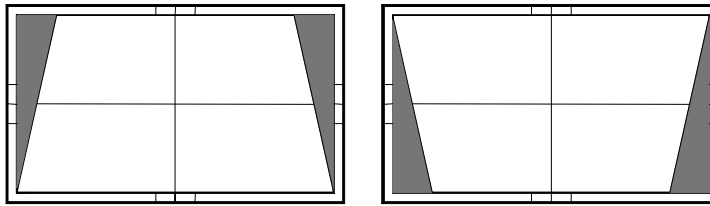

*Figure 4A: Rotation Adjustment Lock Screws*
1. From the front of the TV, lift the foam to access and loosen slightly, the brass Rotation Locking Screws on the Adjuster Assembly, *Figure 4A*. (Use a 10mm wrench.)